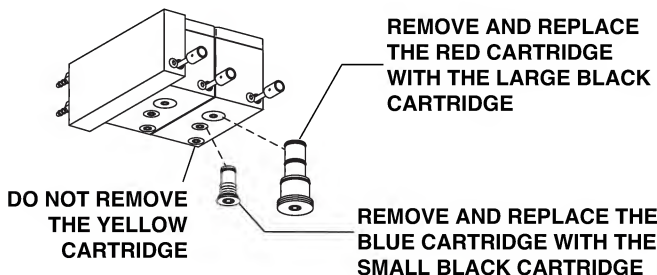

Figure 13. Handpiece Dry Block Conversion
3. Use a 3/32" hex key to remove the large red cartridge from the control block. Install the large black cartridge from the dry block conversion kit into the control block (*see Figure 13*).
4. Use a 3/32" hex key to remove the small blue cartridge from the same control block. Install the small black cartridge from the dry block conversion kit into the control block (*see Figure 13*).